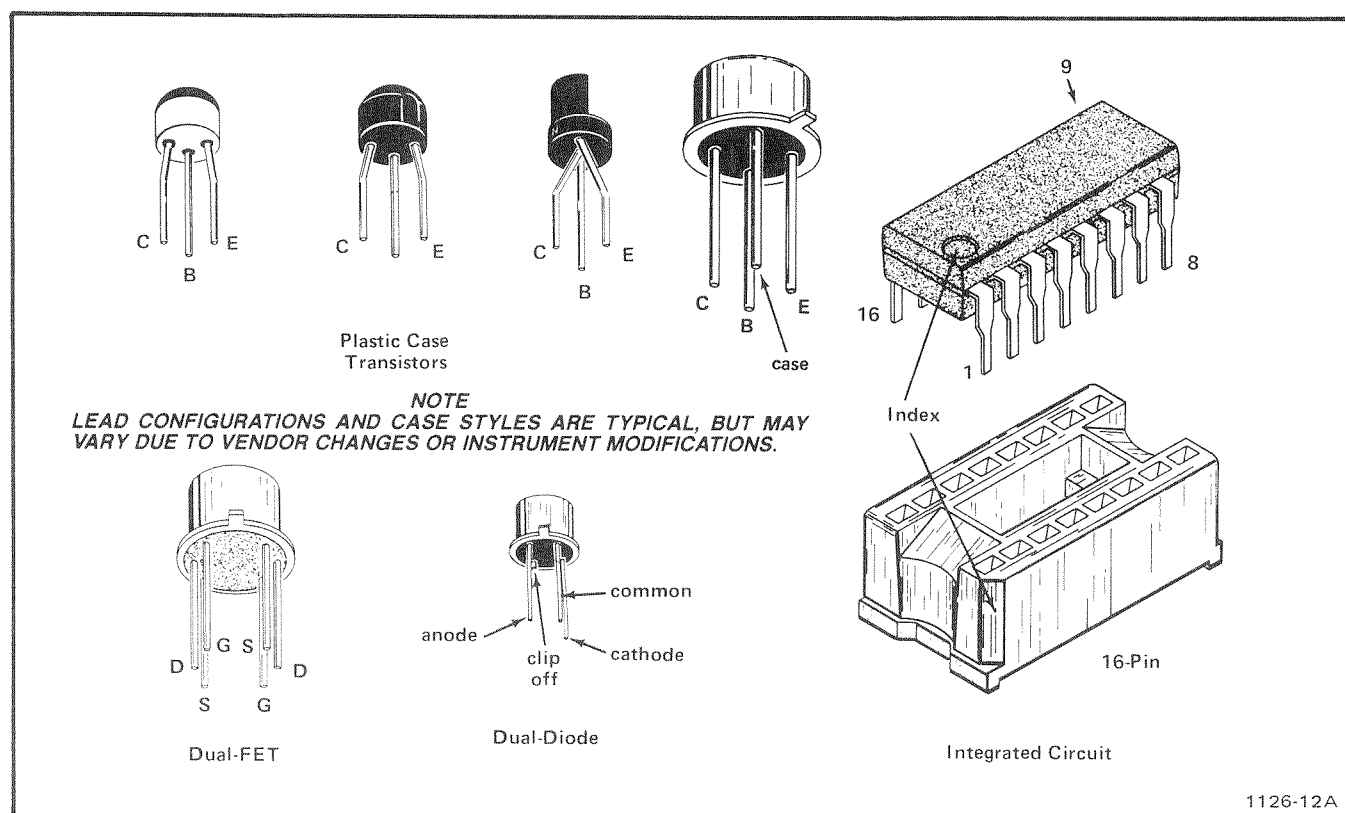

Fig. 4-1. Electrode configuration for semiconductors used in this instrument.
Semiconductor Lead Configuration. Fig. 4-1 shows the lead configuration of the semiconductor devices used in this instrument.
A. TRANSISTORS AND INTEGRATED CIRCUITS. The best check of transistor and integrated circuit operation is actual performance under operating conditions. If a transistor or integrated circuit is suspected of being defective, it can best be checked by substituting a component known to be good; however, be sure that circuit conditions are not such that a replacement might also be damaged. If substitute transistors are not available, use a dynamic tester (such as Tektronix Type 576). Static-type testers may be used, but since they do not check operation under simulated operating conditions some defects may go unnoticed. Fig. 4-1 shows base pin and socket arrangements of semiconductor devices. Be sure the power is off before attempting to remove or replace any transistor or integrated circuit.